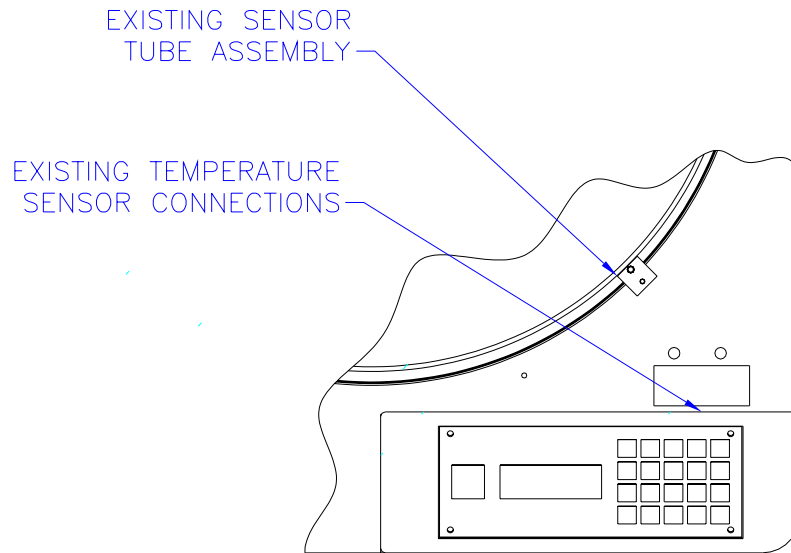

Figure 5, SENSOR CONNECTION AND TUBE
8. Remove the temperature cable (4wire) end connections from the top panel. Reference Figure 5.
27. Replace the existing sensor tube assembly inside the freezer with the new assembly provided. Reference Figure 5.